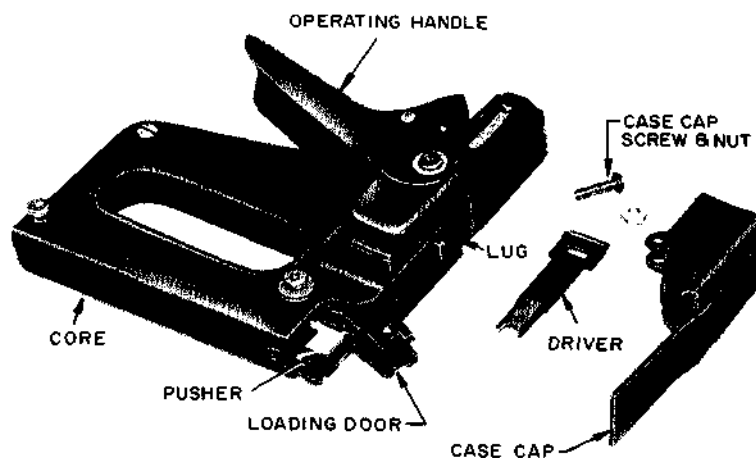

Fig. 2 - L3T Stapler - Dismantled
**3.01** To load stapler, hold it in left hand with handle away from body. Slide the loading door upward until it unlocks and swings open. With stapler still held in the left hand, slide the staples into the core against the pressure of the pusher. To close door, swing door back and downward. (Fig. 2.)